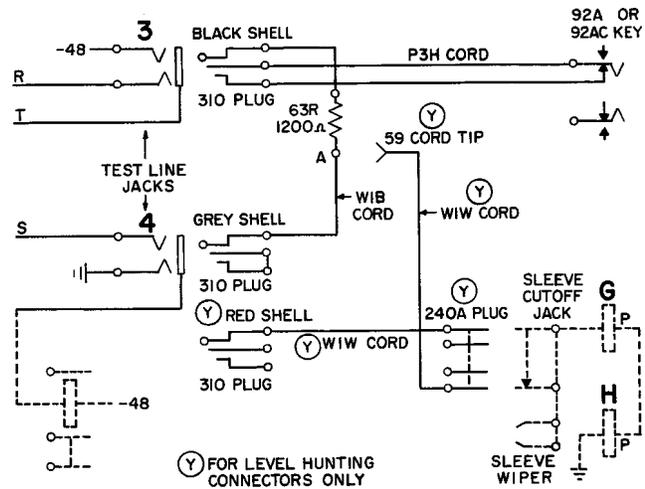

Fig. 1 — Testing Cord
1.01 This section describes a method of making a rapid operation test of local connectors and of the local functions of combination connectors of the 100- and 200-point type by means of the dial hand test sets and special test cord per Fig. 1.
2.03 Patching cord, P3H cord, 10 feet long, equipped with one 310 plug and one 240A plug (3P2A cord) (the 240A plug to be equipped with a 30 cord tip). One 893 cord equipped with two 360 tools and one 419A or KS-6278 tool. Connect as shown in Fig. 1.
- 1 Insert black shell 310 plug of special test cord (Fig. 1) into connector test line jack 3.
| 5 | Insert gray shell 310 plug of special test cord (Fig. 1) into connector test line jack 4. | |
| 7 | Connect 59 cord tip of special test cord to 1200-ohm resistor at point A (Fig. 1). | |
| 8 | Insert red shell 310 plug of special test cord (Fig. 1) into connector test line jack 4. | |
13	Insert 240A plug of special test cord (Fig. 1) into connector sleeve cut-off jack so that No. 4 spring and stay cord of plug are to the right.